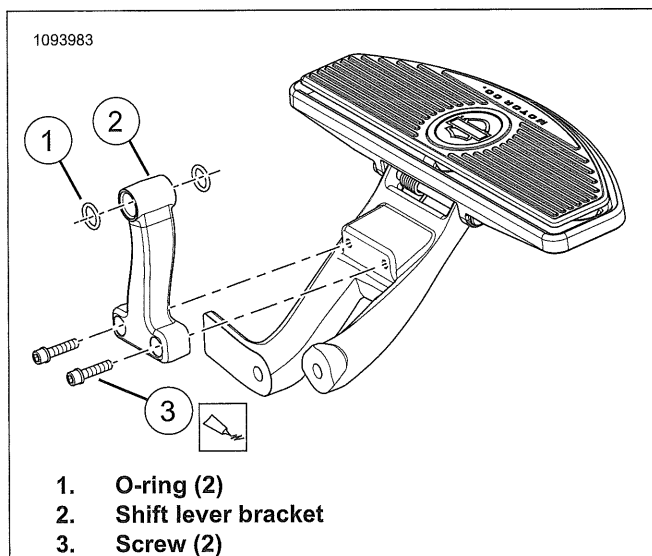
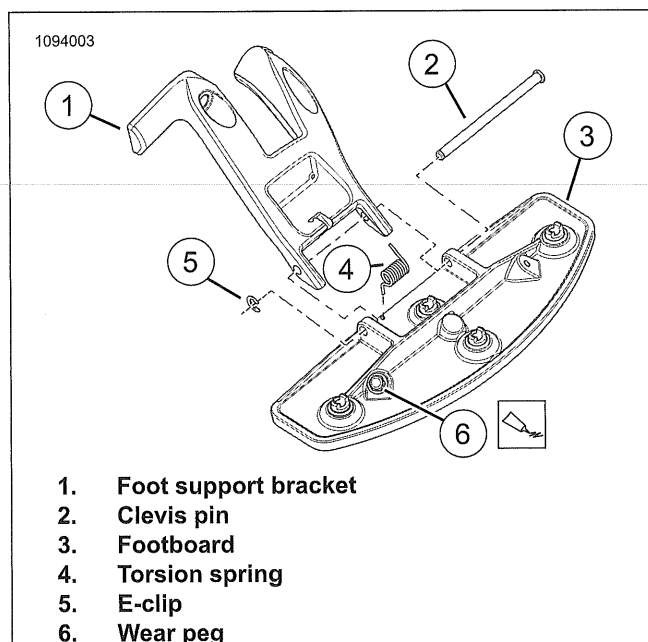

Figure 3-132. Shift Lever Bracket
Figure 3-133. Left Side Footboard (Typical)
1. See Figure 3-132. Remove shift lever bracket.
- a. Remove screws (3).
- b. Remove shift lever bracket (2).
- c. Inspect O-rings (1) for damage, replace if necessary.
2. See Figure 3-133. Remove wear peg (6), if equipped.
1. See Figure 3-133. Install footboard.
- a. Insert short leg of torsion spring (4) in hole in footboard (3).
- b. Position footboard and torsion spring on foot support bracket (1).
3. See Figure 3-132. Install shift lever bracket.
- a. Install shift lever bracket (2).